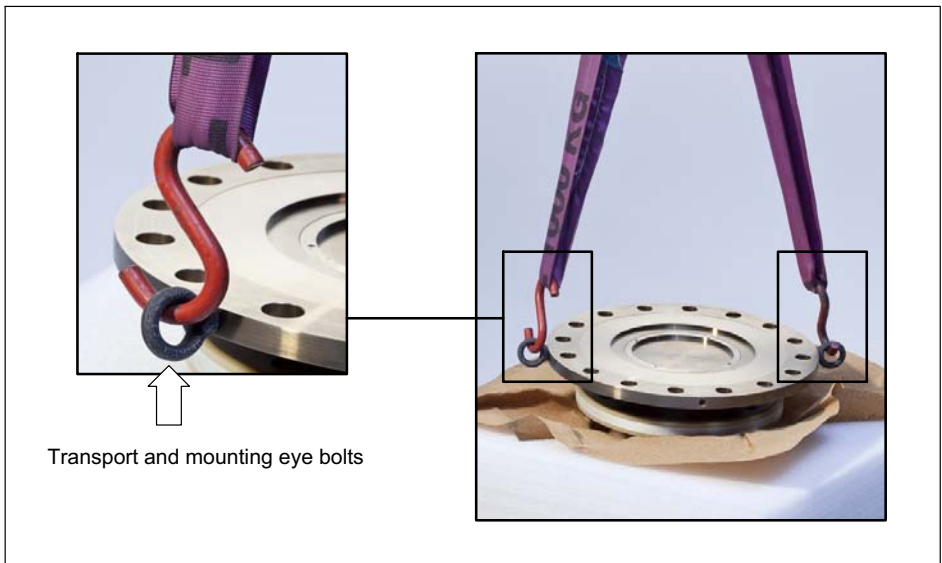

Fig. 5.1 Transport and mounting eye bolts on the rotor
Two eye bolts are screwed into the rotor as transport and mounting aids. Hook the lifting equipment to these eye bolts as this ensures that the rotor is lifted horizontally out of the packaging (see Fig. 5.1).
1. Lift the rotor out of the packaging, rotate horizontally by 180°, so that flange B is pointing upwards (see Fig. 5.1).
6. Carefully lift up the rotor and move it to the mounting position (see Fig. 5.1).